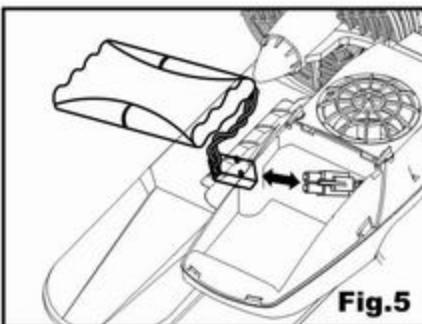

Fig.5
2. Insert fully charged BATTERY PACK into battery compartment as shown. Observe position of wire as shown. (Figs. 5)